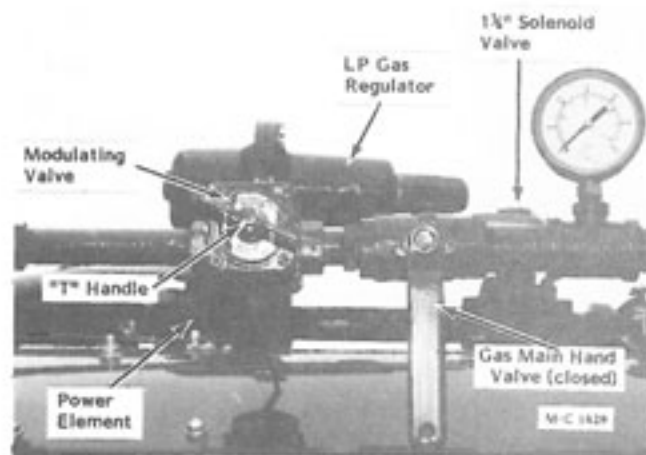

Figure 14
3. Close the gas main hand valve for burner (handle 90° to the piping), see Figure 14.
4. Check the modulating valve in gas manifold to be sure the "T" handle has not been turned all the way in to the wide open position, see Figure 14. The "T" handle should be halfway between the closed and fully open position.
3. Open the gas main hand valve (Figure 14)  $\frac{1}{4}$  of the way. Flip the burner ignition switch ON. After a ten (10) second delay the gas valve light will be ON and the burner will light.